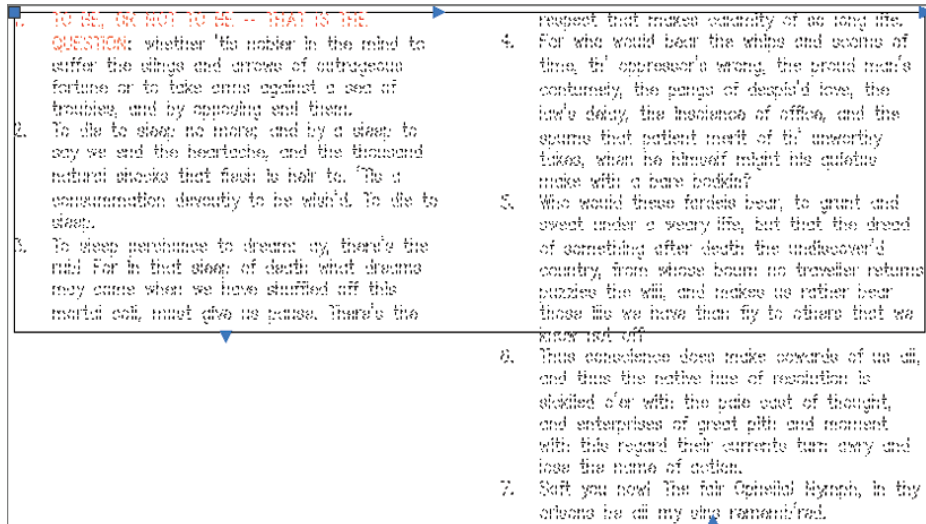

FIGURE 10.17 Moving the middle grip to the left to resize columns
3. Click the Column Width (middle) grip, and move it to the left to reduce the size of both columns simultaneously. Click to set its new position. Click and move the right grip until it reaches the right edge of the rectangle, and then click to set its new position (see Figure 10.17).